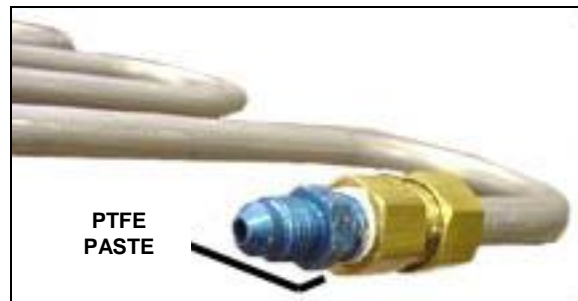

Figure 5
3. Apply a small amount of PTFE thread sealant on the pipe threads of the NPT to AN fitting (18). Tighten into the female threads of the compression fitting (see Figure 5).